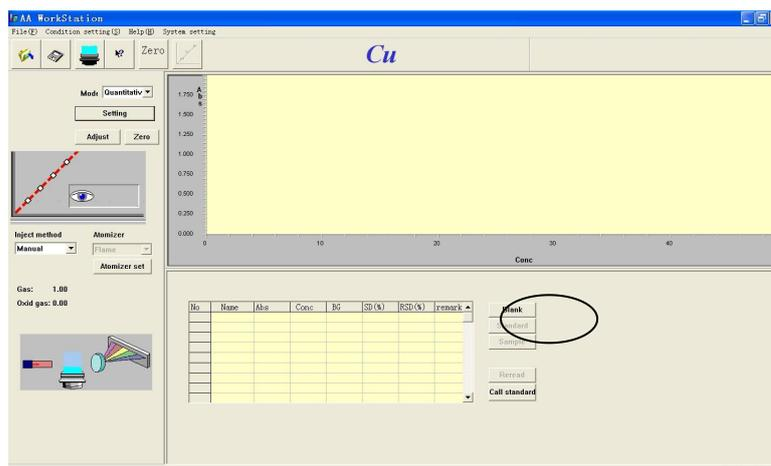

Figure 5-33
7. Press "OK" to close the dialog. Now, the "Standard blank" button should be enabled. See Figure 5-33.